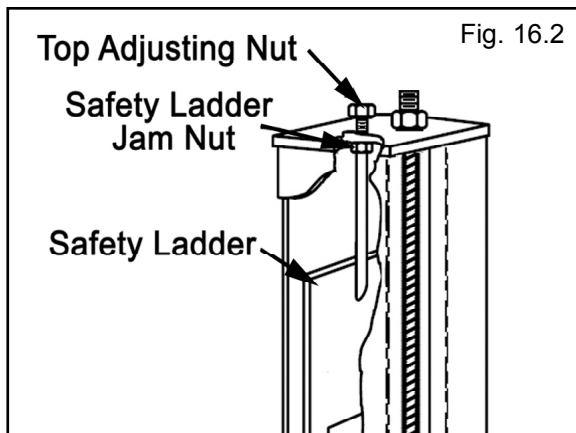

Fig. 16.2
10. To complete the leveling procedures, SNUG EACH SAFETY LADDER JAM NUT against the bottom of the Column Top Plate. Torque to 35-45 PSI. (See Fig. 16.2)